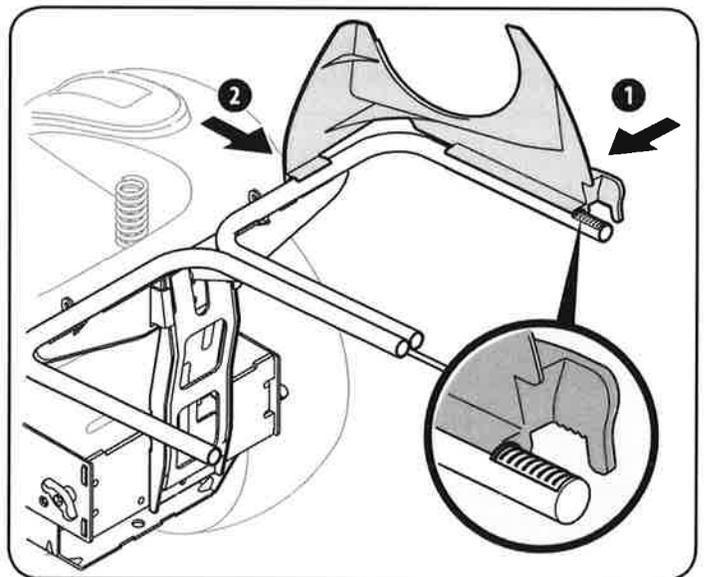

Figure 12
1. Snap the plastic upper chute support in place by first clipping the side portion onto the bag support rail with the edge of the snap feature aligned with the red line (1), as shown in the inset of Figure 12.
2. Snap the front portion of the upper chute support to the bag support rail as seen in 2 of Figure 12.